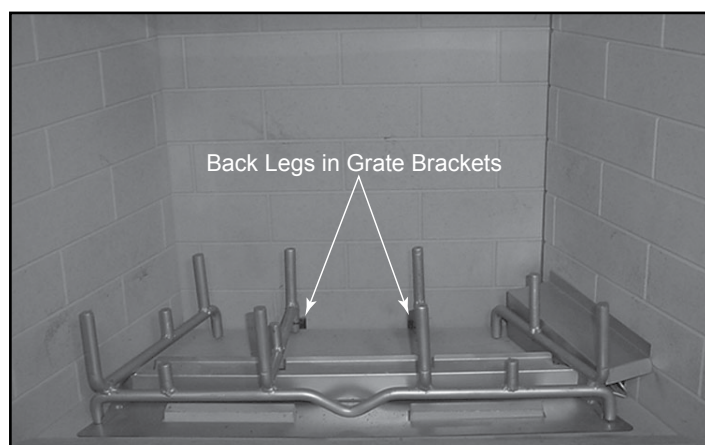

Figure 9.1 Back Legs in Grate Brackets
- Ensure grate assembly is over burner assembly, centered from left to right, and back legs are in grate brackets (see Figure 9.1)